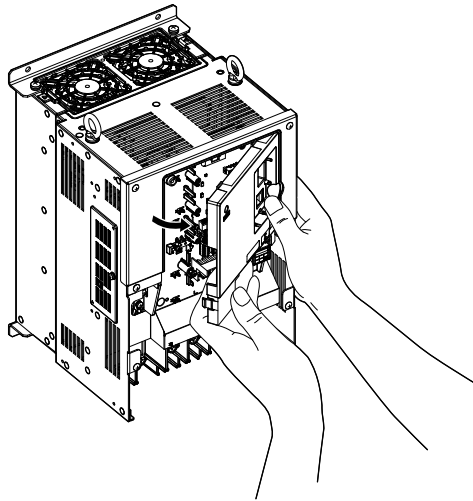

Figure 3.16 Remove the Front Cover (2A0010 to 2A0415 and 4A0058 to 4A0675)
4. Unhook the left side of the front cover then swing the left side towards you as shown in Figure 3.16 until the cover comes off.